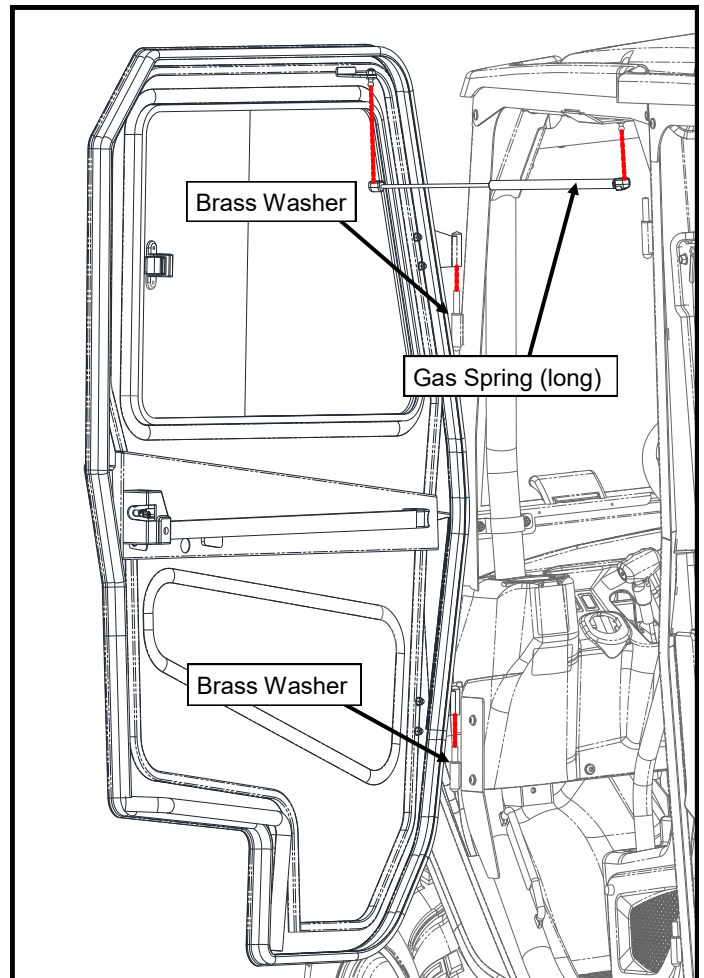

Figure 16.1: Front Doors (Driver's side shown)
- 16.1 Install a total of (4) Brass Washers onto the weld-on hinge pins on the Windshield Frame and Lower Hinge Mounts, one washer per pin (see Figure 16.1).
- 16.3 Holding the door perpendicular to the vehicle, lower the door hinge sleeves over the pins on the vehicle (see Figure 16.1).